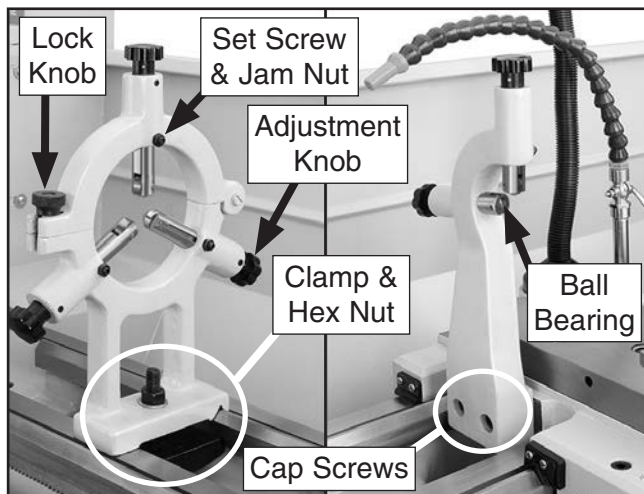

Figure 44. Steady rest and follow rest.
2. Select the required rest (see **Figure 44**) for the operation, and wipe all mounting surfaces clean with a lightly oiled rag.